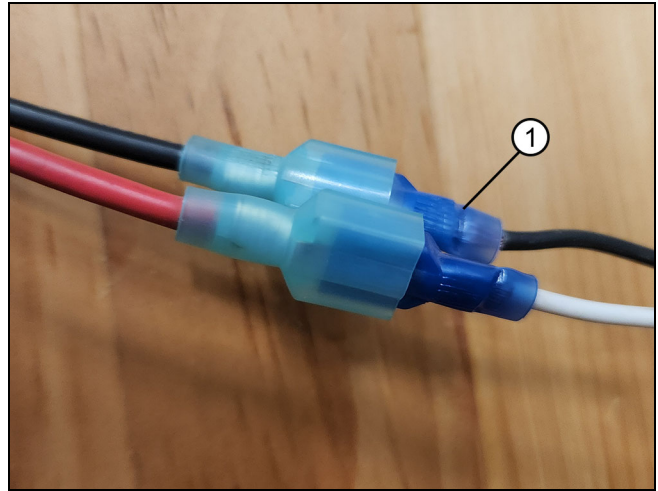

Figure 22
**7. Control Box to Motor:** the red Super Cable connects to the corresponding port on the motor. Red and black female leads from the motor to the black and white male leads from the control box. See Figure 22.